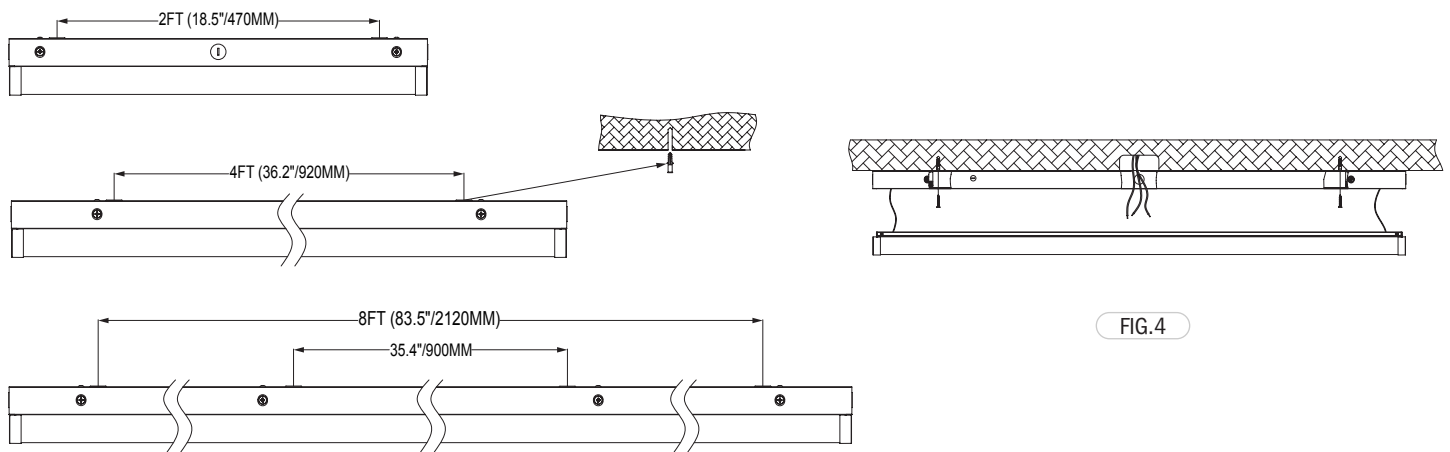

FIG.4
- 2 Use the provided mounting holes on each end of the fixture housing, mount per required application using appropriate hardware (not included). (Figure 4).